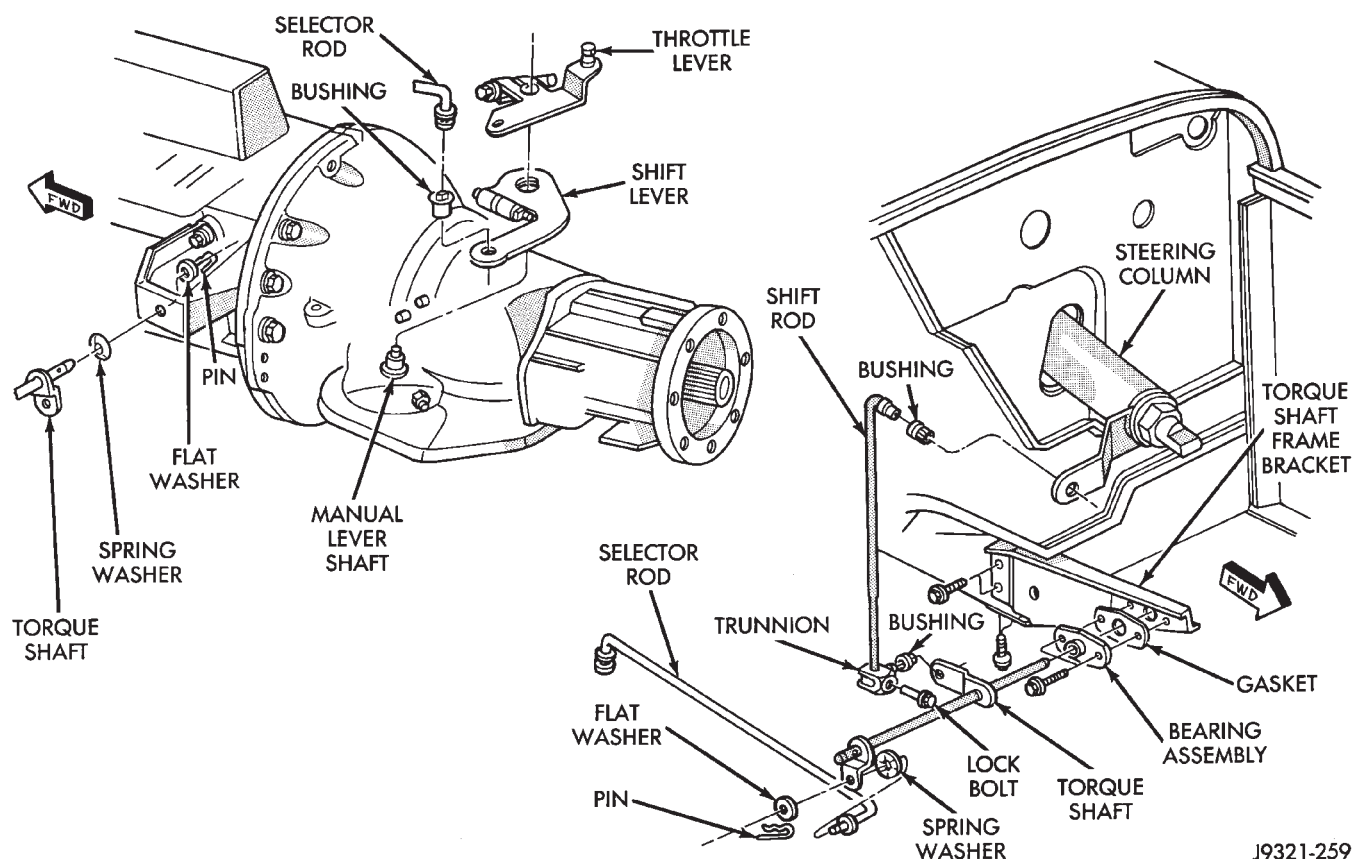

Fig. 1 Gearshift Linkage (YJ)
(1) Check linkage adjustment by starting engine in Park and Neutral.
(2) Adjustment is OK if engine starts only in park and Neutral. Adjustment is incorrect if engine starts in one but not both positions.
(3) If engine starts in any position other than Park or Neutral, or if engine will not start at all, park/neutral position switch may be faulty.
(4) Shift transmission into Park.
(5) Raise vehicle.
(6) Check condition of shift rods, bellcrank, bellcrank brackets and linkage bushings/grommets (Fig. 1). Tighten, repair, replace worn, damaged parts. Do not attempt adjustment if linkage components are worn or damaged.
(7) Loosen shift rod trunnion lock bolt or nut. Be sure upper shift rod slides freely in trunnion (Fig. 1). Also be sure shift rods and bellcrank rotate freely and do not bind at any point.
(8) Verify that manual lever is in Park detent (Fig. 1). Move lever all the way rearward to be sure it is in Park.
(9) Check for positive engagement of park lock by attempting to rotate propeller shaft. Shaft will not turn when park pawl is engaged.
(10) Adjust shift rod trunnion to obtain free pin fit in bellcrank arm and tighten trunnion lock bolt or nut. Prevent shift rod from turning while tightening bolt or nut. Gearshift linkage lash must be eliminated to obtain proper adjustment. Eliminate lash by pulling downward on shift rod and pressing upward on bellcrank.